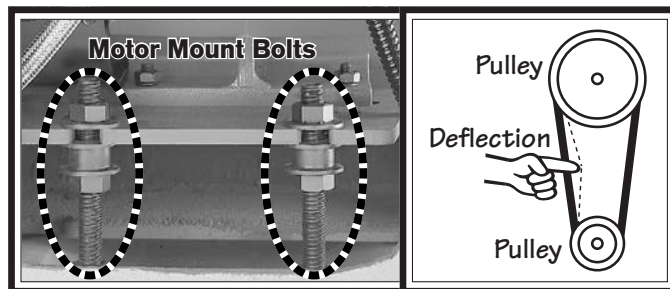

Figure 133. V-belt adjustment.
3. Turn the hex nuts on the motor mount bolts shown in **Figure 133** to move the motor mount plate up or down and adjust the V-belt tension. When correctly tensioned, each belt should have about $\frac{3}{4}$ " deflection when pressed firmly (see **Figure 133**).